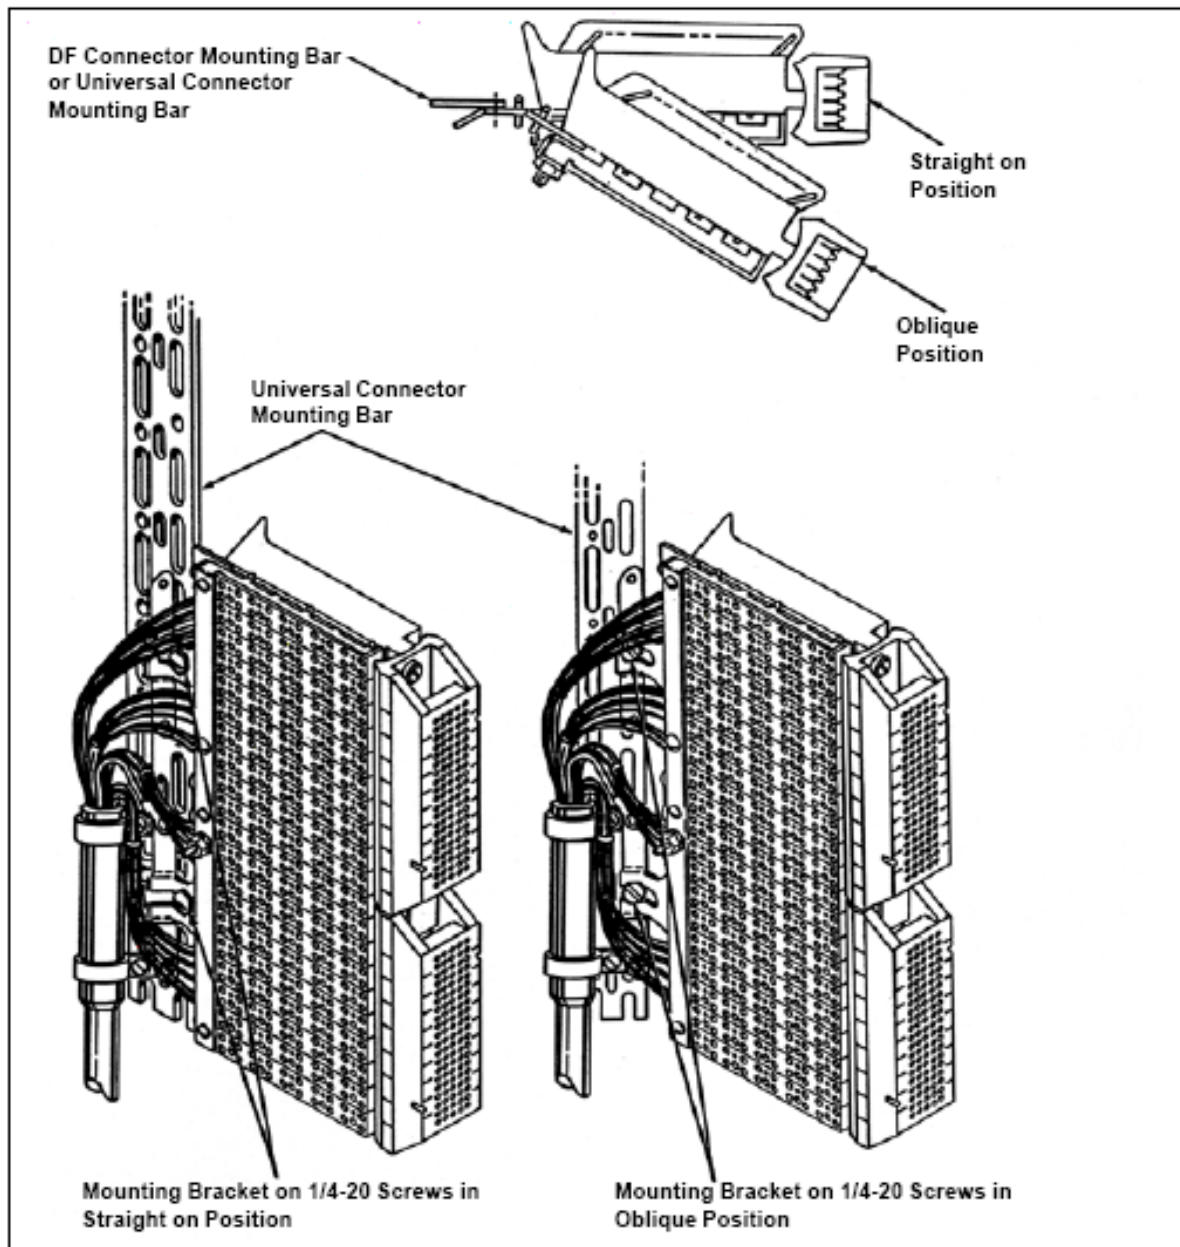

Figure 8 – Mounting Stubbed C-377 Connector to Distribution Frame
7.3 Mount connector to distributing frame connector mounting bar. Locate the two tapped holes on the left side of the connector mounting bar to be used for mounting the connector (Figure 8).